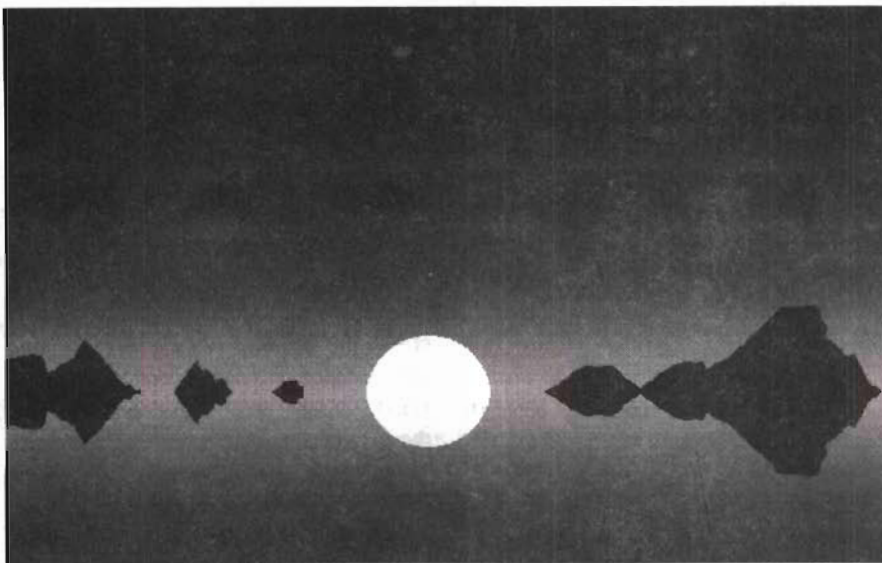

Figure 2
7) To make the reflection, pick up the middle third of the picture as a brush (press b) and flip it on its Y axis (key-board shortcut: y). Make sure you pick up enough to fill the bottom third of the screen, and make sure that, when picking up the brush, to pick up only down to the bottom of the sky. This way, you won't pick up the extra part of the sun that has already dropped below the horizon. Stamp down the flipped brush directly below the original, so it looks like Figure 2. To do this, you may need to move your brush handle until you have room. Simply press Alt y until your mouse holds the brush by its upper right corner.